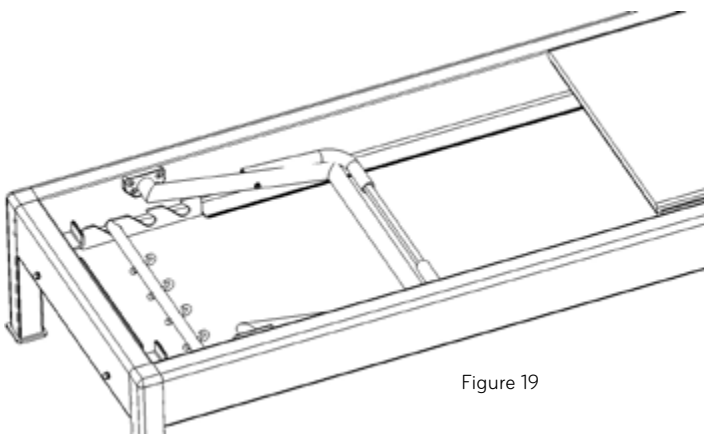

Figure 19
4. Lay the footbar flat on the inside of the frame as shown in Figure 19. If using the wooden gear stopper, remove this so the footbar can lay lower in the frame.